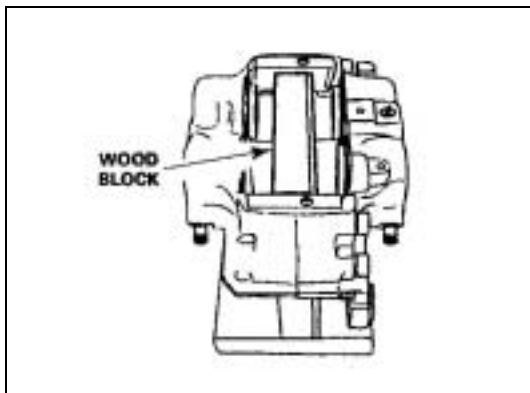

Figure 10
5. Place a block of wood (7 5/8 x 3 1/2 x 2 9/16–inches thick) between the caliper pistons. Use a C-clamp to hold the block of wood against the pistons on one side of the caliper. **Figure 10.**